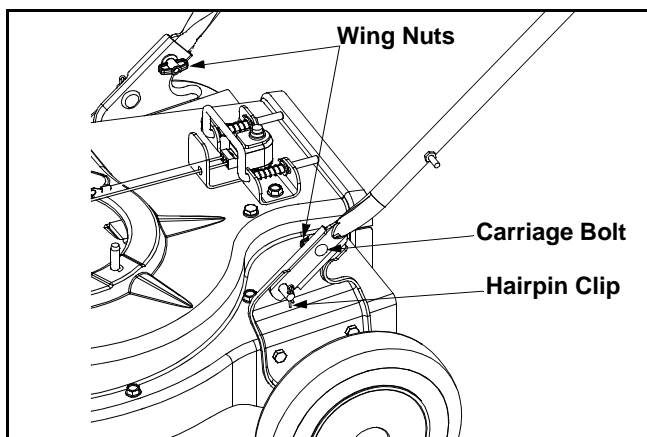

Figure 2
- Remove the hairpin clips from the handle brackets on the chipper shredder vacuum and remove the carriage bolts and wing nuts from the lower handle. See Figure 2.